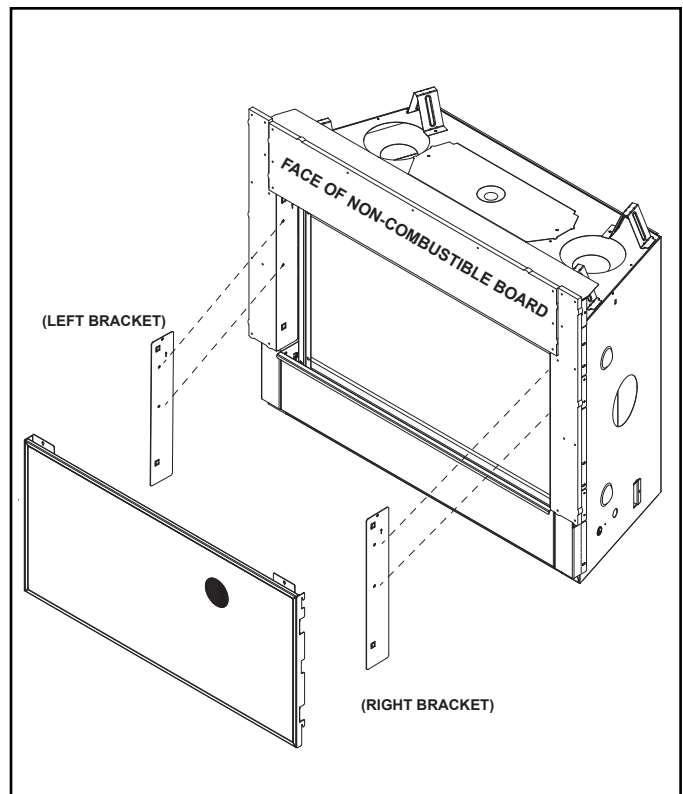

Figure 11.5 Install Hanging Brackets
5. Install the left hanging bracket by positioning the arrows upward and outward. Install a hex screw in each mounting hole. See Figure 11.5. Repeat for right auxiliary hanging bracket.